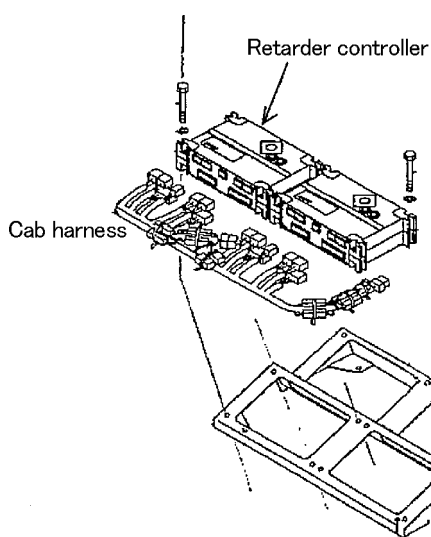
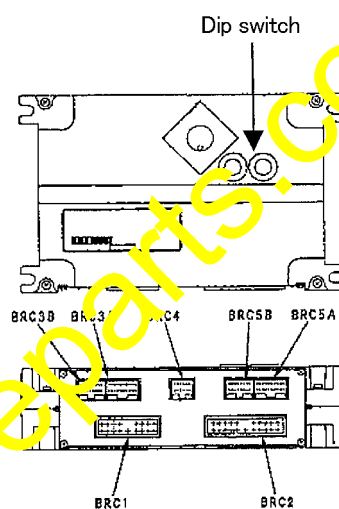

Fig. 1
Fig. 2
(Refer to Fig. 1 and Fig. 2.)
- (2) Remove the mounting bolts (4 pcs.) for the retarder controller and remove the controller. (Refer to Fig. 1.)
(Refer to Fig. 2.)